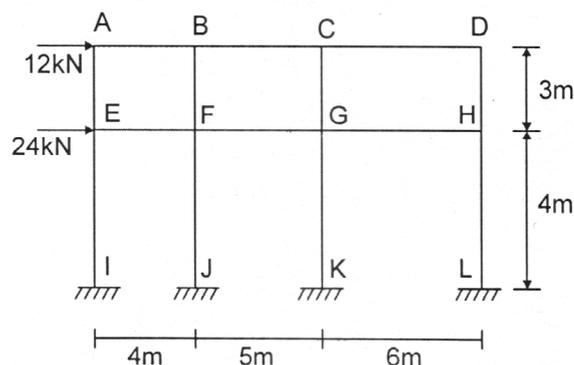

Fig.4
4. Analyse the frame shown in fig. 4 by cantilever method. Take cross sectional areas of all columns as the same. 20